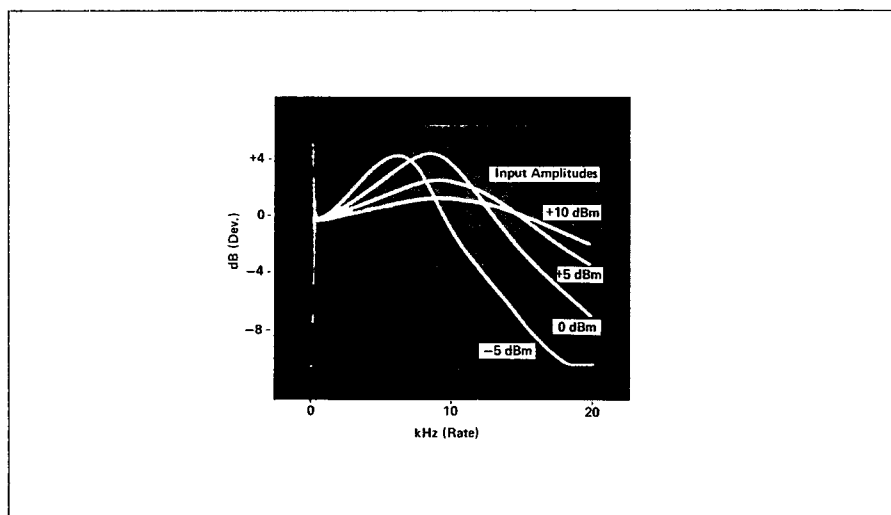

Figure 4. Variation of Frequency Response With Input Amplitude Obtained Using Test Setup Shown in Figure 2.
5. Many PLL's are sensitive to input amplitude variations so it may be desirable to test the PLL at various input amplitudes (see Figure 4).